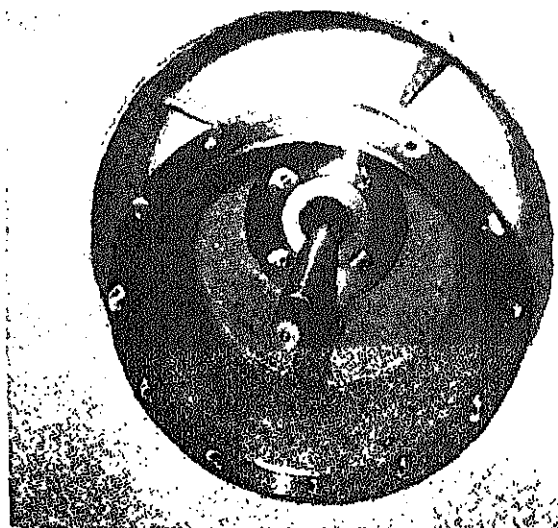

FIGURE 7-91.
b. Rotate the motor housing in the drum until the access hole in the back wall of the housing is at its highest extreme. Position motor housing pilot flange so it will fit into the frame (see figure 7-91).